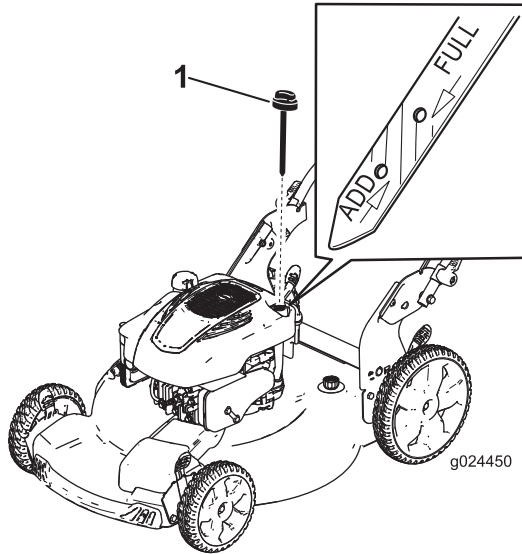

Figure 10
Fill the fuel tank with fresh unleaded regular gasoline from a major name-brand service station (Figure 10).
2. Remove the dipstick (Figure 10).
5. Read the oil level on the dipstick (Figure 10).